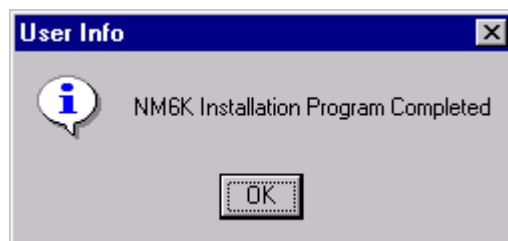

FIGURE 1-21. Installation Completed
1.42 Touch the 'OK' button on the 'Installation Completed' dialog. See FIGURE 1-21. The machine will reboot at this time. It could take several minutes to complete. After the machine reboots, sys1mgr will automatically start.